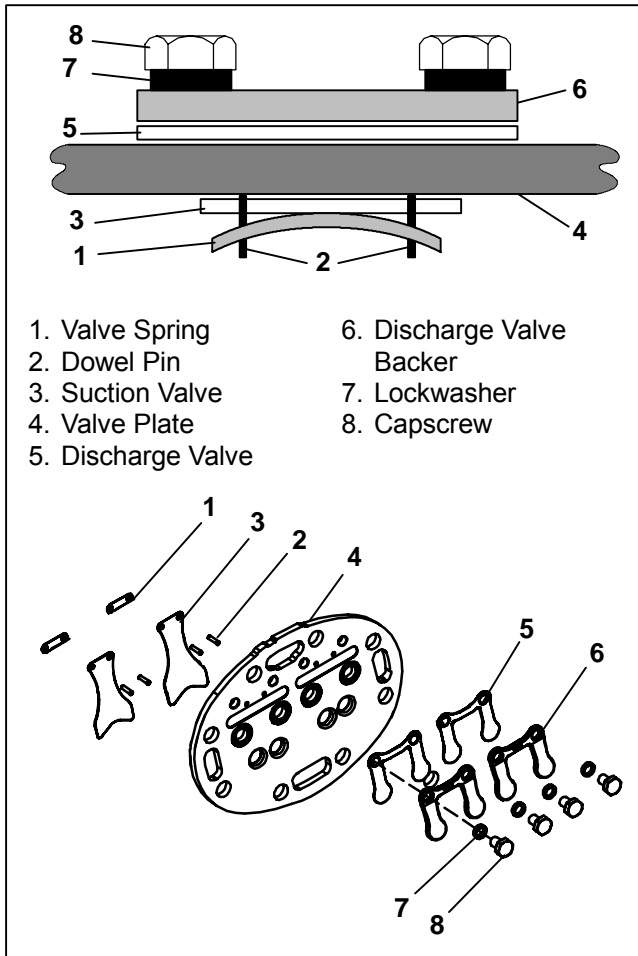

Figure 3-3. Installing Suction Valves
- Install the suction valve spring on the dowel pins with the spring ends bearing away from the cylinder head. (See Figure 3-3)